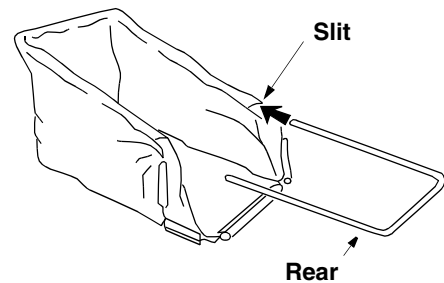

Figure 6
- Insert one end of the rear frame into the slit in the cloth channel on the edge of the grass bag (slits are approximately 6 inches from the end of the bag). See Figure 6. Feed all the material on one side of the frame before working it around frame. Make certain the other end of rear frame comes out the slit in the other side.